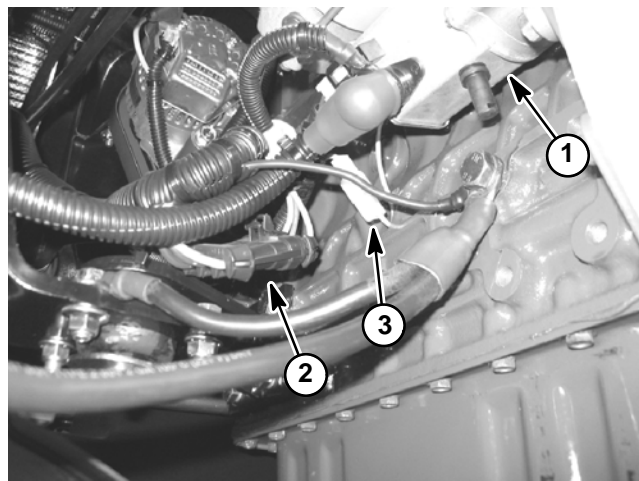

Figure 43
The Multi Pro 5800 uses four (4) fusible links for circuit protection. Three (3) of these fusible links are located in a harness that connects the starter B+ terminal to the wire harness (Fig. 43). The remaining fusible link is included in the wire harness and connects the starter terminal G to the engine fuel stop solenoid pull coil (Fig. 43). If any of these links should fail, current to the protected circuit will cease. Refer to wire harness drawings in Chapter 8 – Foldout Drawings for additional fusible link information.
4. For fusible link in wire harness (Fig. 43):